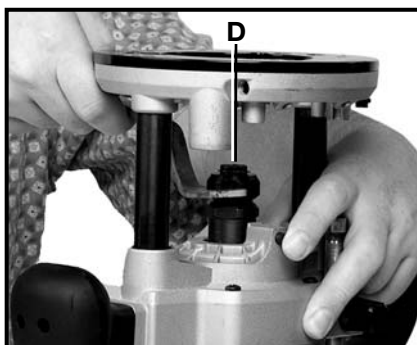

Fig. 10
6. Tighten collet nut (D) Fig. 10 with wrench provided.